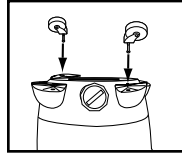

FIGURE 12
11. Take the remaining casters and place a flat washer over the stem of each caster. Insert casters into caster feet by placing the caster stems into the holes provided. Apply pressure and twisting motion until casters snap into place. **FIGURE 12.**